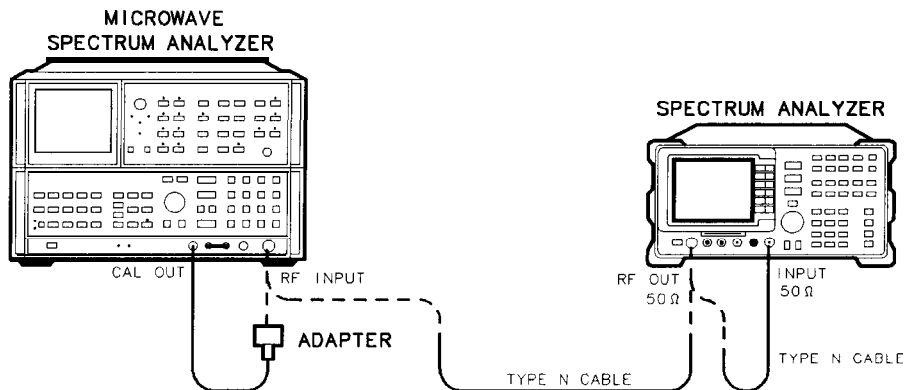

Figure 2-96. Non-Harmonic Spurious Outputs **Test** Setup
2. Connect the Type N cable between the RF OUT 50  $\Omega$  and INPUT 50  $\Omega$  connectors on the spectrum analyzer. See Figure 2-96.
4. Connect the Type N cable from the tracking generator output to the microwave spectrum analyzer RF INPUT as shown in Figure 2-96.